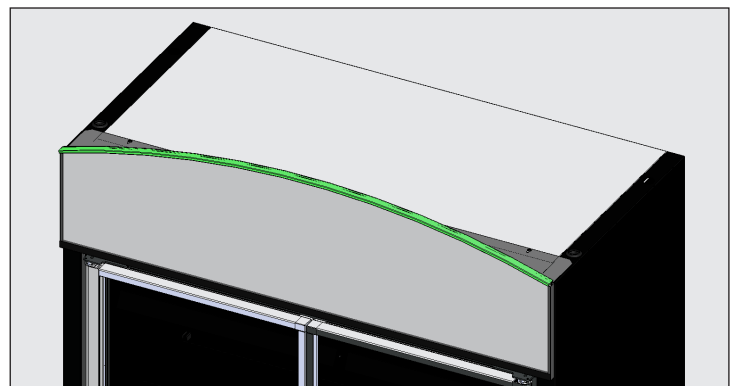

Fig. 5. Install sign panel assembly.
6. Tighten the support bracket hardware. See fig. 5.